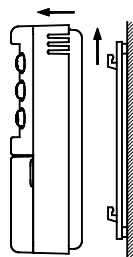

Fig. 1
1. Release the wall mount plate fitted under the base of the chronostat as shown in Fig. 1.